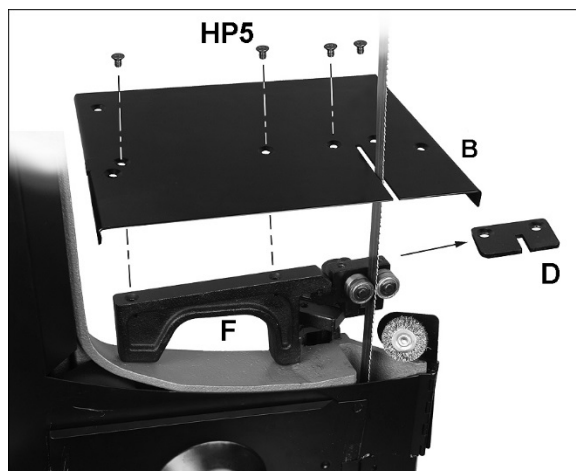

Figure 8-4: installing cutting plate
6. Place smaller support (F, Figure 8-4) onto groove of blade guide, and adjust height of blade guide until support sits level on bow frame, as shown (**712DV only**).
7. Remove deflector plate (D).
8. Install table plate (B) and secure with four screws (for 712DV) or two screws (for 712V).